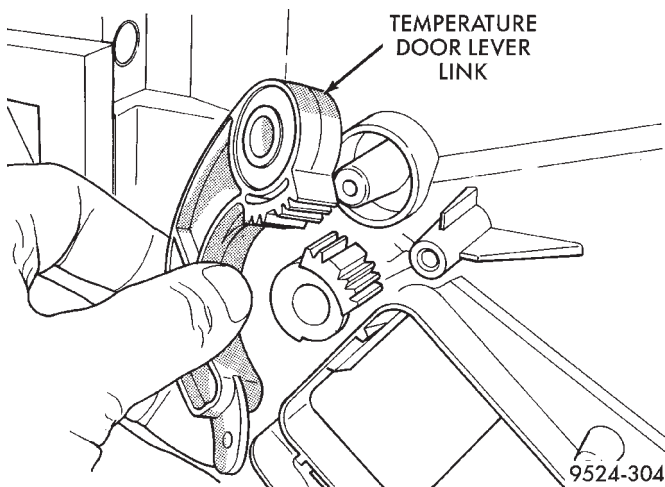

Fig. 97 Temperature Door Lever Link Removal
(27) Remove temperature door lever link (Fig. 97).